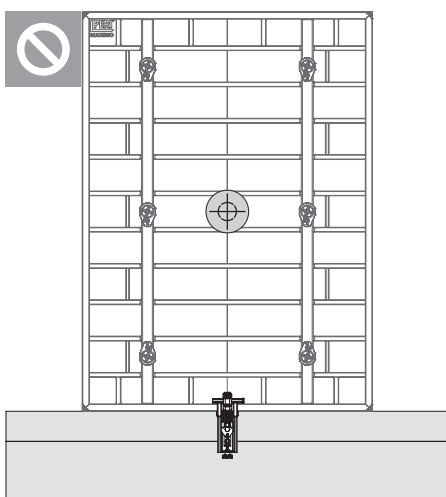

Fig. A2.10
- A formwork element must not cover an individual wall formwork bracket. (Fig. A2.10)